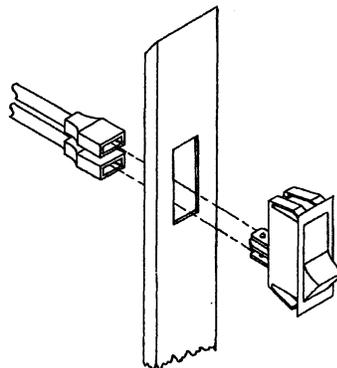

Figure 13 Burner Switch Installation
5. Push the burner switch through the hole in the right hand faceplate trim and connect the two blue wires to the switch connectors (see Figure 13).